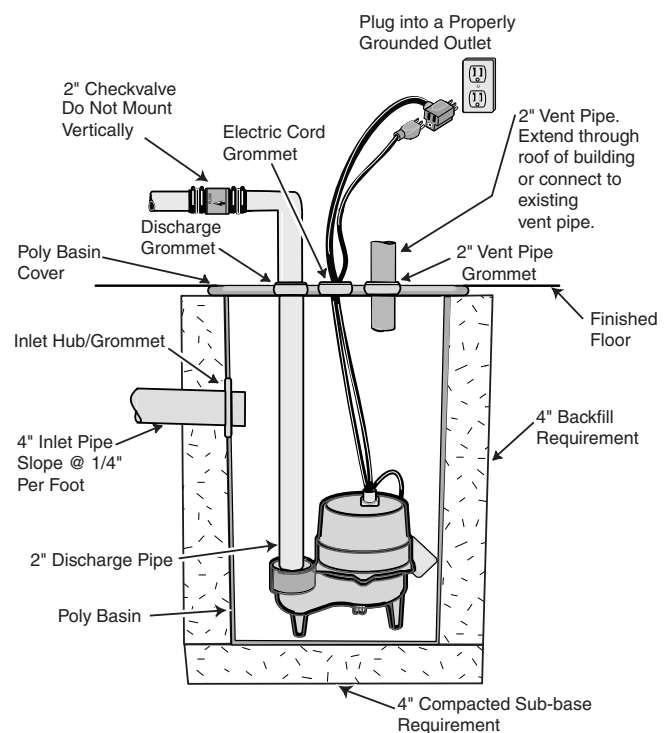

Figure 1 – Typical Installation
1. Dig the hole for the sewage basin and the sub-base. The hole must be deep enough so the finished floor is flush with the top of the basin. Refer to Figure 1, below.
12. Install a 2" check valve in the horizontal portion of the discharge pipe. See Figure 1. Make certain, the flow indicating arrow, points away from the pump. This check valve will keep the water from running back into the basin when the pump is not running.